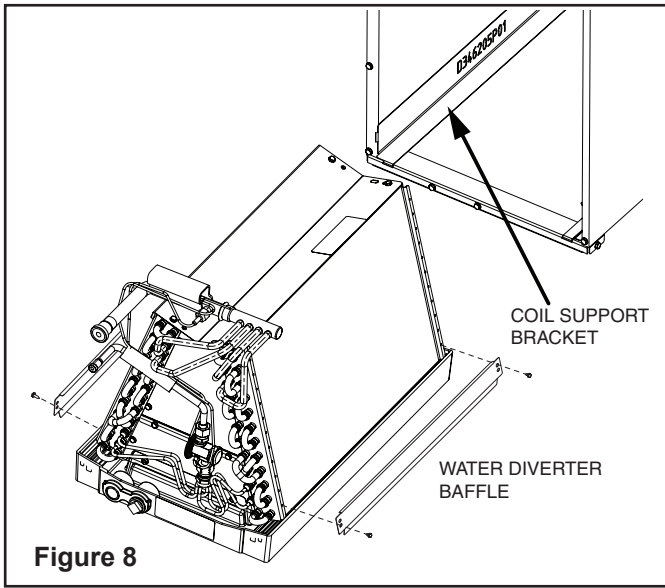

Figure 8
- d. For the 4PXCCD060 and 4PXCCDD060 Coils Only, the (2) outer water diverter baffles should be removed for maximum efficiency. See Figure 8.